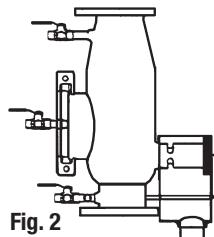

Fig. 2
3. Hang the Air Gap Drain on the body of the relief valve (Fig. 2).